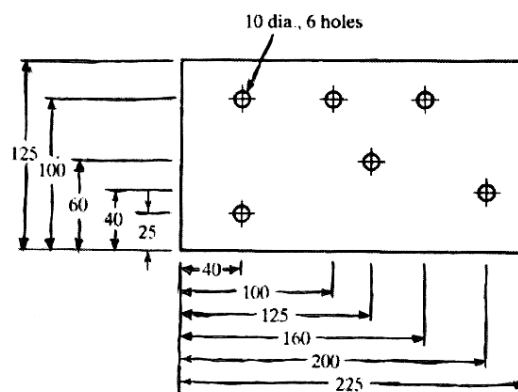

Figure Q. 16(b)
- (b) Write the part program to drill the holes in the part shown in Figure Q. 16(b). The part is 12 mm thick. Cutting speed = 100 m/min and feed = 0.06 mm/rev. Use the lower left corner of the part as the origin in the x-y axis system. Write the part program in the word address format with TAB separation and variable word order. Use absolute positioning. (15)